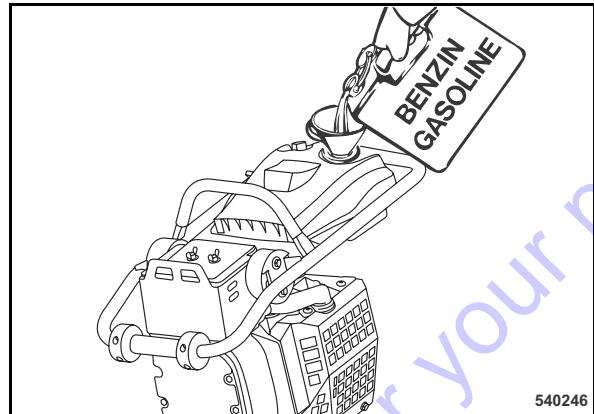

Fig. 35
- Clean the area around the filler cover, unscrew the filler cover (Fig. 35).